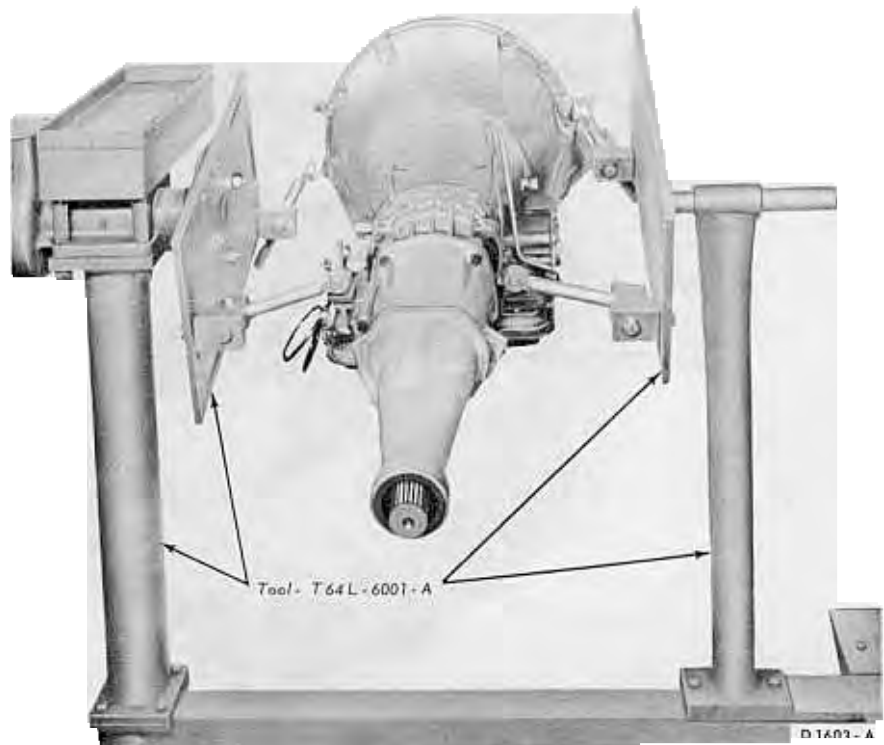

FIG. 23—Transmission Mounted in Holding Fixture
1. Mount the transmission in holding fixture T59P-7000-A (Fig. 23).